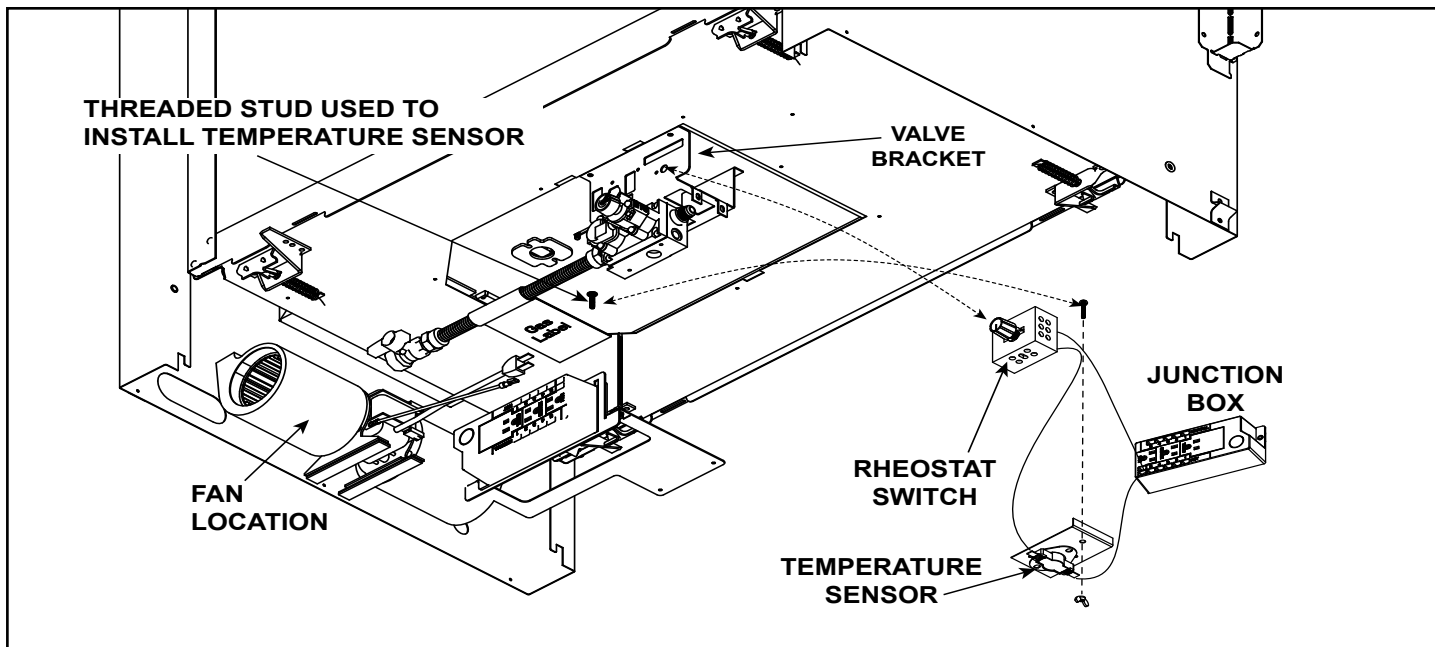
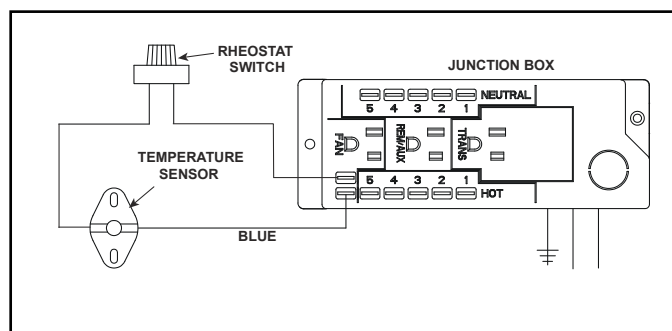

Figure 8.4 Fan Location, Fan and Rheostat Wiring
Figure 8.5 Detail of Fan Wiring with Rheostat
1. Install and wire the fan in appliance as shown in Figure 8.4 and Figure 8.5.
2. Locate the fan as shown in Figure 8.4.
If the fan will not be installed for operation with the IFT-RC400, the temperature sensor will need to be installed. See Figure 8.4 for location of the temperature sensor and rheostat switch.
- Install rheostat switch in location as seen in Figure 8.4.
- Connect temperature sensor switch wire and rheostat switch wires to junction box as shown in Figure 8.5.